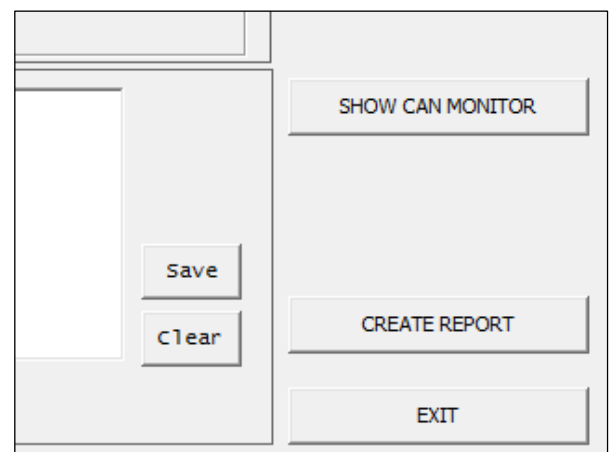

Fig. 1 Cut-out of the CanCheck window
- Click the **CREATE REPORT** button in the **CanCheck** window (Fig. 1).